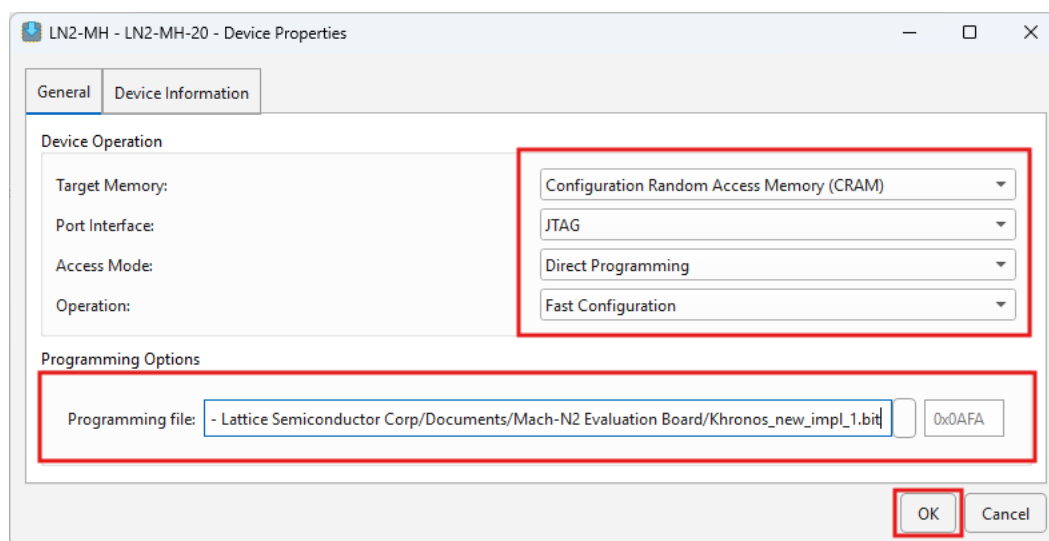

Figure 3.4. Radiant Programmer – Device Properties
9. Double-click **Fast Configuration**. The **Device Properties** dialog box opens (see Figure 3.4), select the following: